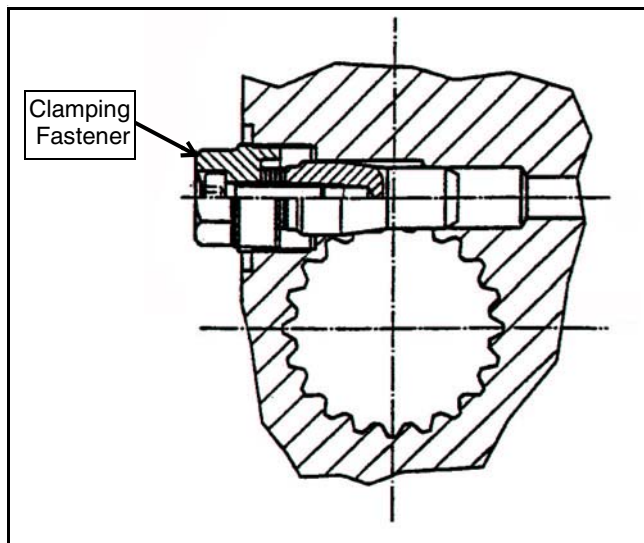

Figure 9.. Clamping Fastener
1. Apply grease to drive sprocket grease zerk (See Figure 9).